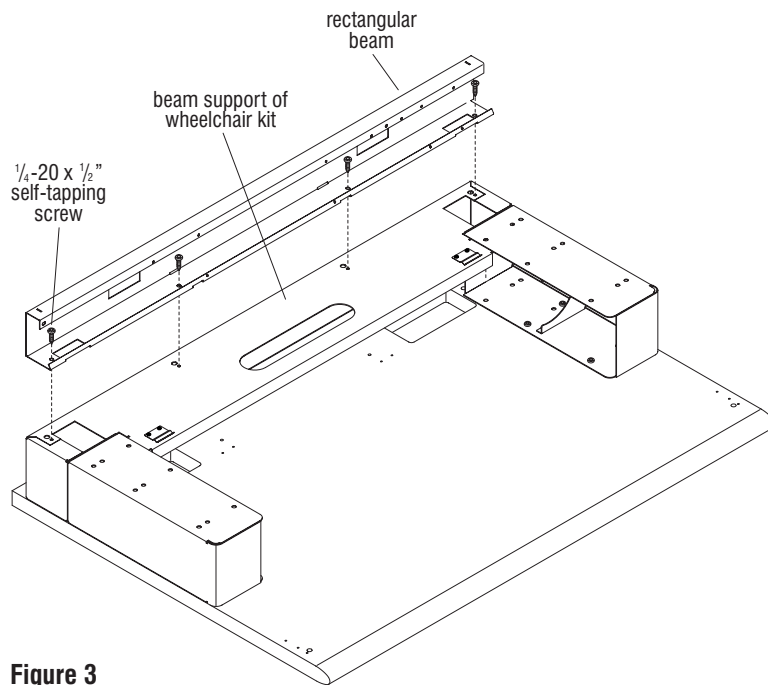

Figure 3
7. Install rectangular beam to beam support of the wheelchair kit with four $\frac{1}{4}$ -20 x $\frac{1}{2}$ " self-tapping screws from wheelchair hardware kit (Figure 3).